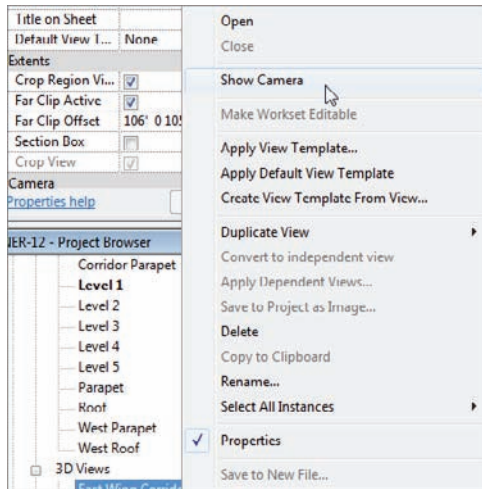

FIGURE 3.72 By finding the view in the Project Browser, you can tell Revit to show the camera in the plan.
2. In the Project Browser, find the East Wing Corridor Perspective view in the 3D Views category. Right-click it and select Show Camera, as shown in Figure 3.72.